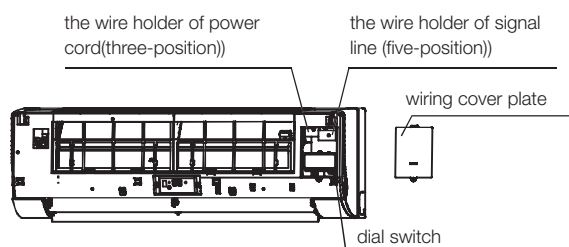

Fig.7-2
2. Individual connect the power cord and signal line, adjust the dial switch. (see Fig.7-2).